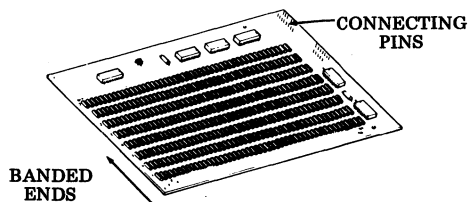

Fig. 20—410734 Diode Matrix Circuit Card
4.04 To option the 410734 diode matrix circuit card (Fig. 20), the card must be separated from the 410733 controller card assembly.
(c) Unplug connector from 410734 diode matrix card (Fig. 20).